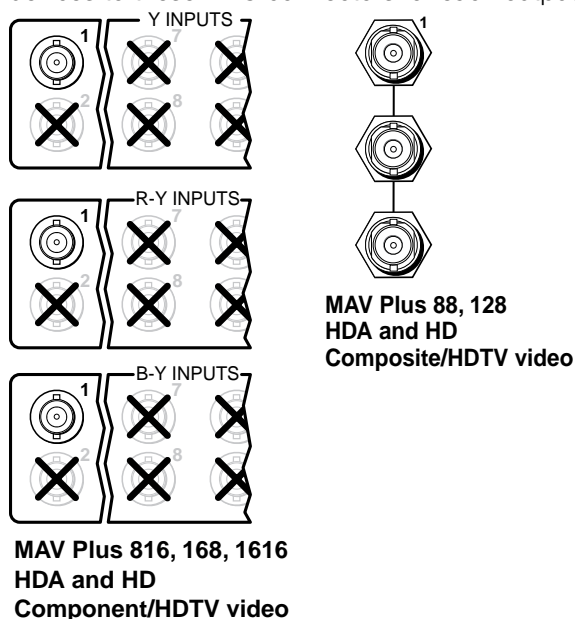
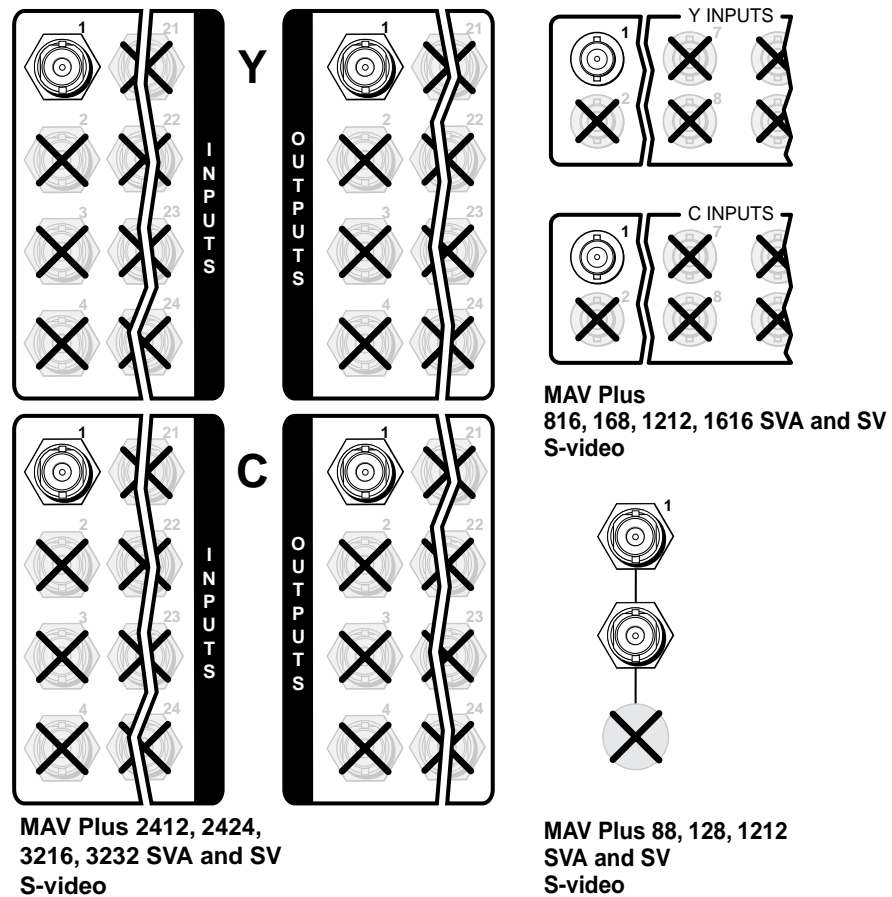

Figure 16. MAV Plus Component/HDTV Video Connections
Figure 17. MAV Plus S-video Connections
- The connectors for each video plane are grouped together (for example, for component/HDTV switchers, all of the Y inputs grouped together, all of the R-Y inputs grouped, and so on). Ensure that you connect the input on each video plane to the corresponding connector in the correct group (see figure 16, below and figure 17 and figure 18, both on the next page).
- ① **Video inputs** — Connect component/HDTV video (see figure 16), S-video (see figure 17), or composite video (see figure 18) inputs, as applicable, to these BNC connectors for each input.
- ② **Video outputs** — Connect component/HDTV video (see figure 16), S-video (see figure 17), or composite video (see figure 18) displays, as applicable, or other devices to these BNC connectors for each output.